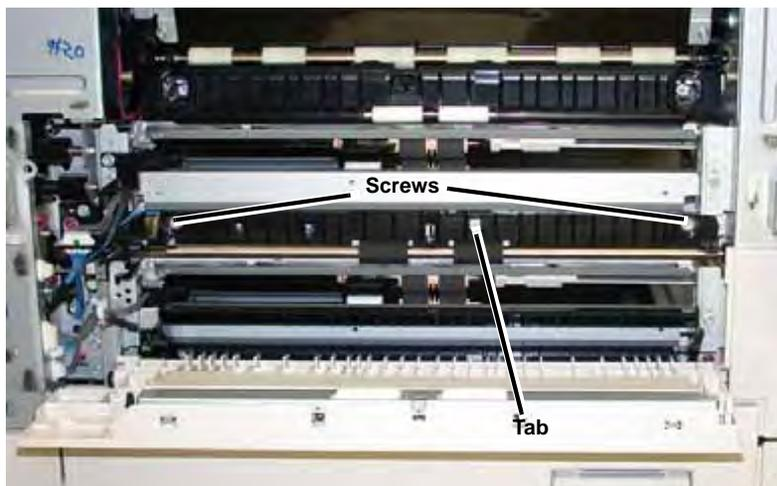

Figure 5 Removing Screws
8. Remove the Takeaway Chute (Figure 5).